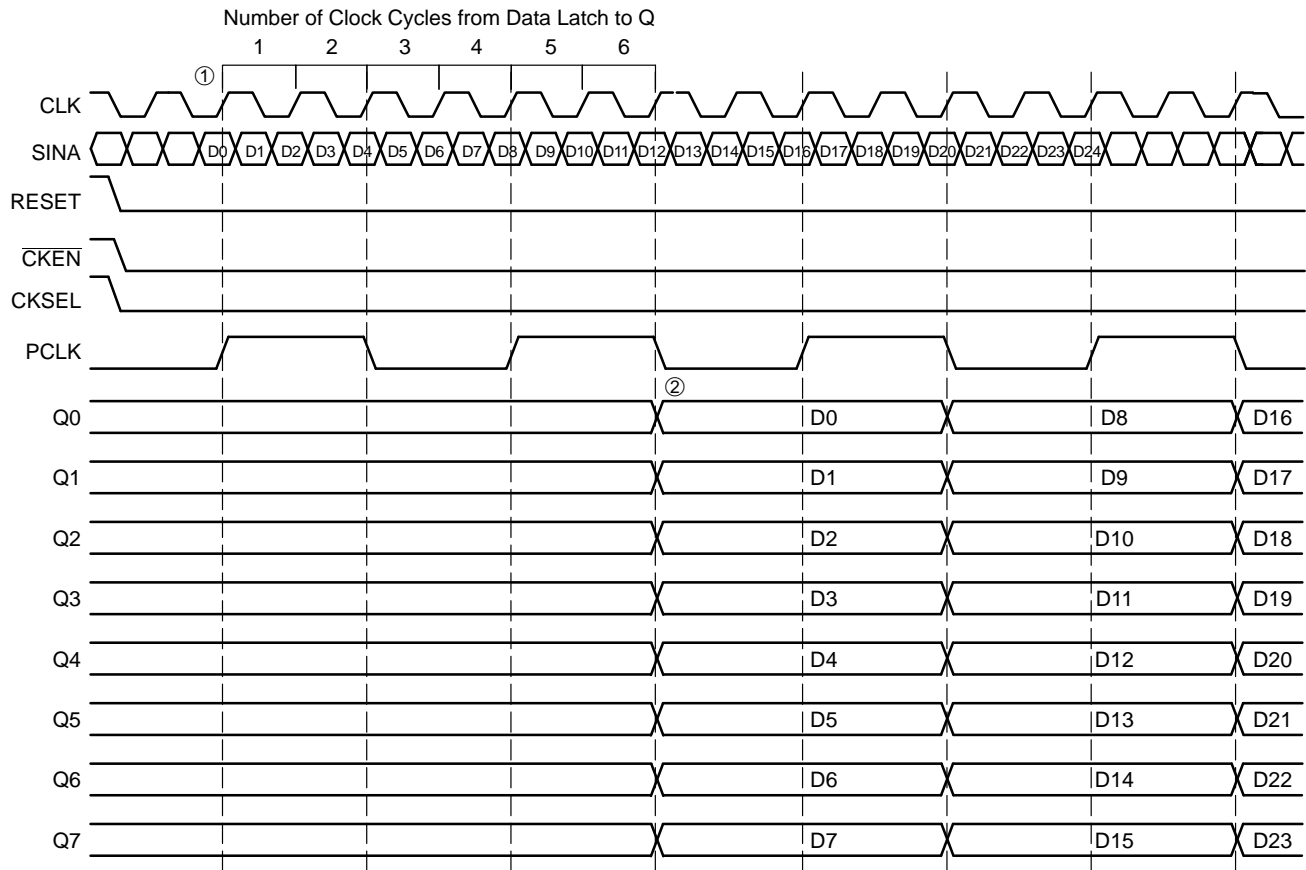

Figure 8. Timing Diagram A. 1:8 Serial to Parallel Conversion with CKSEL LOW
For CKSEL LOW operation, the data is latched on both the rising edge and the falling edge of the clock and the time from when the serial data is latched^① to when the data is seen on the parallel output^② is 6 clock cycles (see Figure 8).